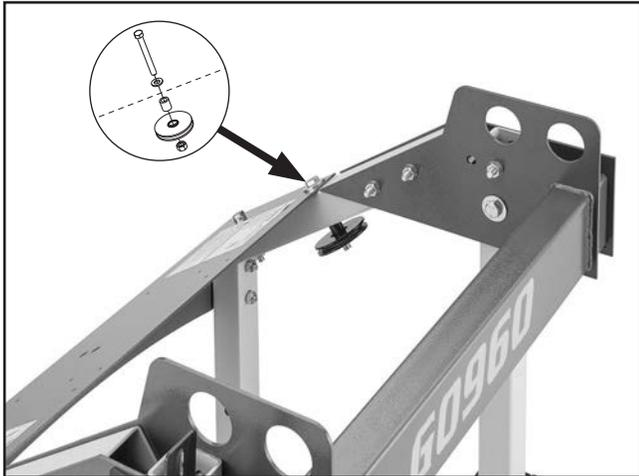

Figure 31. Cable pulley attached to right rear post.
28. Attach cable pulley to right rear post with (1) M12-1.75 x 110 hex bolt, 1/2" flat washer, 12 x 19 x 19.5mm spacer, and M12-1.75 hex nut (see **Figure 31**).